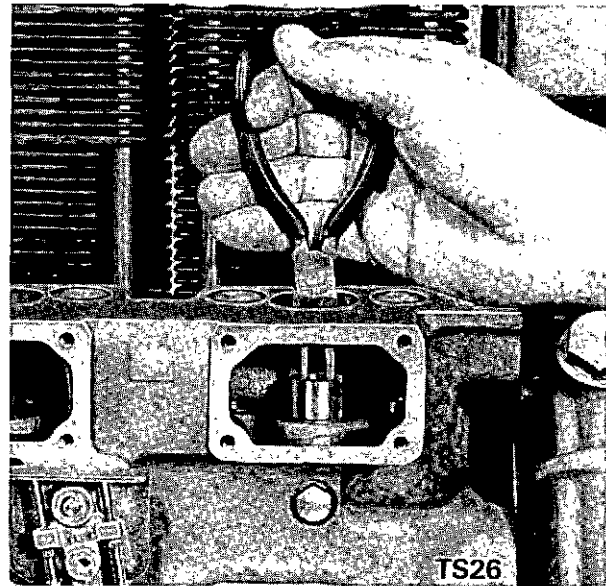

Fig. 84 Removing Fuel Pump Tappet
- (a) Using long nosed pliers remove tappet insert and fuel pump tappet assembly (Fig. 84)